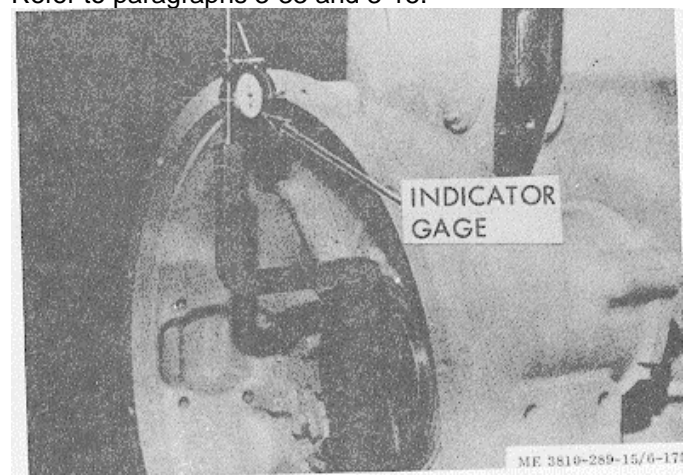

Figure 3-169. Flywheel housing indicator gage.
(1) Attach indicator gage as shown in figure 3-169.
(2) Push crankshaft forward to take up end clearance.
(3) Turn crankshaft to obtain readings on housing face.